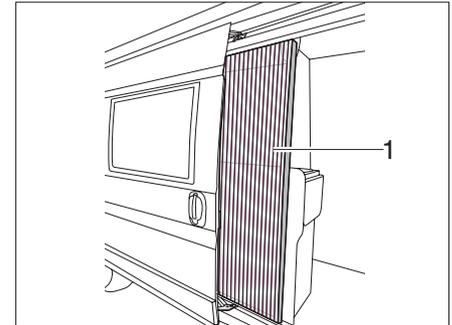

Fig. 31 Insect screen
- ▶ Pull out the insect screen completely at the strip (Fig. 31,1).
- ▶ Push the insect screen back into the starting position at the strip (Fig. 31,1).